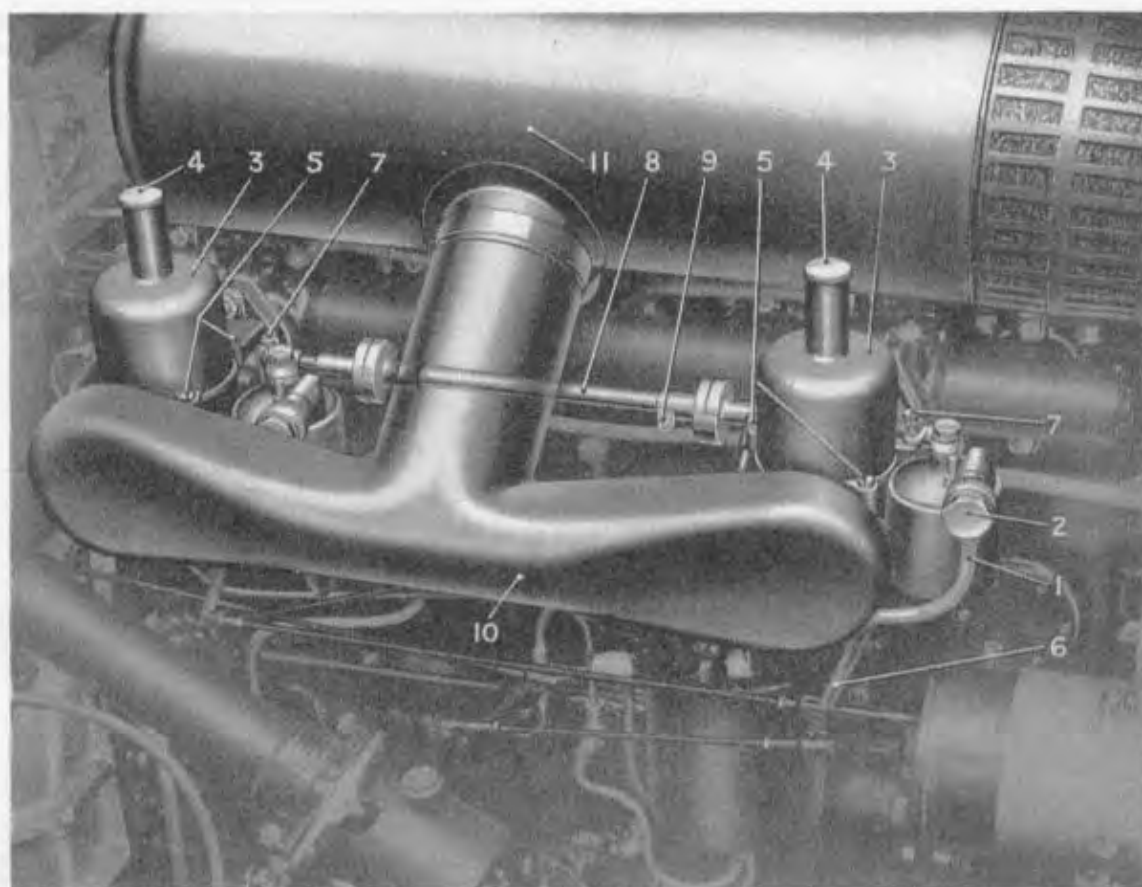
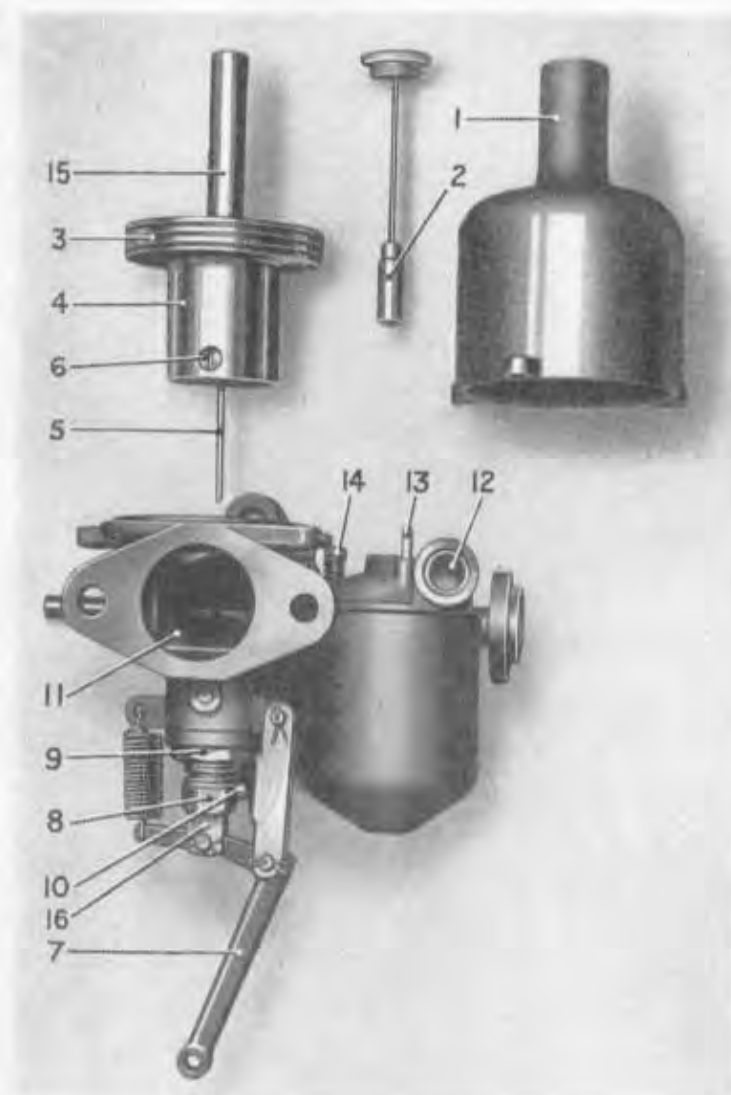

Fig. 13. CARBURETTERS IN POSITION ON ENGINE.
Fig. 14.—CARBURETTER—EXPLODED VIEW.
In addition a small gauze strainer, shown at (12, Fig. 14), is arranged on each carburetter. These should be removed and cleaned every 20,000 miles, as directed on page 33.
Removal is effected by unscrewing the two union nuts (2, Fig. 13). The strainer gauzes can then be removed and cleaned in petrol.
Two carburetters of the S.U. controllable jet type are fitted as shown in Figs. 13 and 14, one being shown in section to illustrate the principal parts.
from cold. The damper consists of a small cylindrical brass plunger (2, Fig. 14), attached by a thin steel rod to the oil cap nut (4, Fig. 13). Inside the plunger is a one-way ball valve which seats in an upward direction. The plunger is a free fit in the hollow guide rod of the automatic air valve piston, the chamber being filled with a thin oil. The action of the device being as follows:—
Every month, as directed on page 30, the oil reservoir cap nut (4) (Fig. 13), should be unscrewed and the plunger withdrawn, *great care being taken to avoid damage to the plunger rod by bending*, the reservoir should be topped up, if required, with the recommended oil, so as to maintain the level of the oil to the
If it is suspected that the automatic air valve is not working correctly, the air intake (10, Fig. 13), should be removed, and a check made by lifting the piston with the fingers, when it should be noted that the piston falls quite freely on to its seat when released.
If any sticking or sluggishness is apparent, it will be necessary to dismantle the air valve assembly; first remove the hydraulic piston damper, next remove the three screws (5, Fig. 13), and lift off the cylinder (3). The piston valve can be then lifted out, *the utmost care being taken not to bend or damage its depending needle valve* (5, Fig. 14), *or to bruise the valve in any way*. The valve, cylinder and guide, should be carefully wiped with a piece of clean cloth dipped in petrol, and the piston rod ONLY lubricated with a few drops of thin oil.
The suction disc (3, Fig. 14), does not touch the walls of the cylinder, there being a small clearance, and it is centralised solely by the piston rod working in the guide. Therefore, any sluggishness in movement is probably due to dirt in the guide, or on the cylinder walls.
The needle valve is secured in position by means of a grub screw, (6, Fig. 14), and if it should be necessary to remove this, as, for instance, when replacing an accidentally damaged needle, it must be particularly noticed that the location of the valve is determined by a shoulder. The valve should be pushed into the piston until this shoulder is just flush with the lower face and the grub screw tightened.
The quantity of mixture for slow running is determined by means of an adjustable screw stop on the front carburetter (7, Fig. 13), which limits the closing movement of both throttles. This is so adjusted that the engine will idle slowly but reliably when the hand throttle lever on the steering wheel is set right to the bottom of its range and the accelerator pedal released. The stop on the rear carburetter is normally inoperative, and is only used to help initial adjustment.
Re-adjustment of the jets, and of the control shaft between the carburetters, should not normally be required. If, however, the whole adjustment has been disturbed, first adjust the throttles so that both carburetters function equally at "fast idle". An indication that both pistons have risen can be felt by depressing the top of the piston guide rod (15, Fig. 14) by means of a small rod inserted through the top of the cylinder (3, Fig. 13), after removal of the oil cap nut and hydraulic piston damper (4, Fig. 13). The jets should then be adjusted subsequent to this operation, as described below.
The mixture control lever on the steering wheel operates to raise or lower the actual fuel orifice or jet, through the medium of the levers (6, Fig. 13.). Raising the jet causes the taper needle to sink further into the orifice, so weakening the mixture. Conversely, lowering the jet enriches the mixture. This control is only intended to provide a means of strengthening the mixture for starting from cold, for normal running the jets must be in their highest position, the back of both the jaws (16, Fig. 14), abutting against the adjustable stops (8, Fig. 14), simultaneously.
With the engine warm, the control rods should be disconnected from the ends of the levers (6, Fig. 13), and the latter pushed up until the jaws (16, Fig. 14), are against the stops (8, Fig. 14). Then, with the engine running, the stops should be manipulated until the engine runs regularly. Any sign of "hunting" is due to the mixture being too rich, and one or both of the stops must be screwed further in and the lever pushed up so that the jaw is against it.
If it is required to dismantle the float chambers, it will be most convenient to remove them bodily—after removing the fuel pipes—by unscrewing the hexagon plugs (10, Fig. 14), which secure each to its carburetter body.
The large hexagon (9, Fig. 14), should not be disturbed, as the refitting of this requires special tools to ensure that the jet is accurately centralised relative to the taper needle valve.